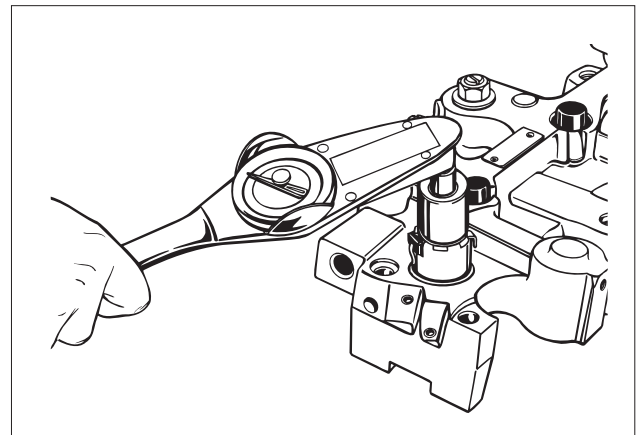

FIG. 23
6. Be sure the seals are seated properly and carefully and screw the solenoid into the housing without unseating the seals. Torque the valve to 20 N•m [15 lb.-ft] (see Fig. 23).